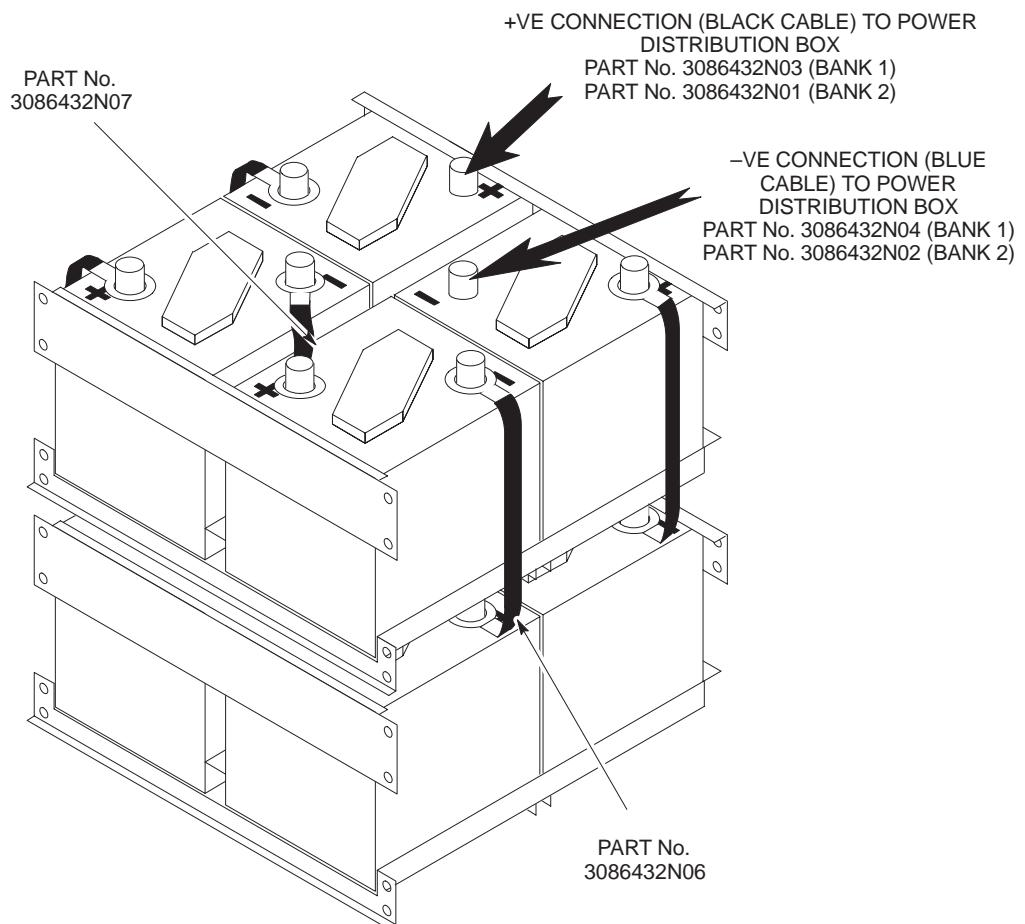

Figure 5-7 Battery arrangement in row 2 with cables attached
8. Connect the leads from the batteries in row 1 to the terminals of the batteries in row 2 as shown in Figure 5-7. Fit the front retaining plate.
Figure 5-7 shows the battery and cable arrangement in row 1.